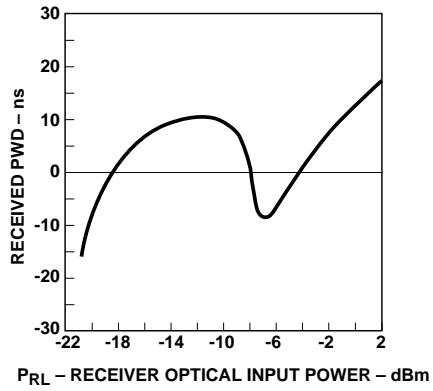

Figure 2. Typical POF receiver pulse width distortion vs. optical power at 10 MBd.
- Receiver overdrive ( $P_{RL,max}$ ) is specified as the limit where |PWD| will not exceed 30 ns. The receiver will be in the correct state (logic "0") for optical powers above  $P_{RL,max}$ . However, it may not meet a 30% symbol period PWD if the overdrive limit is exceeded. Refer to Figure 2 for PWD performance at high received optical powers.